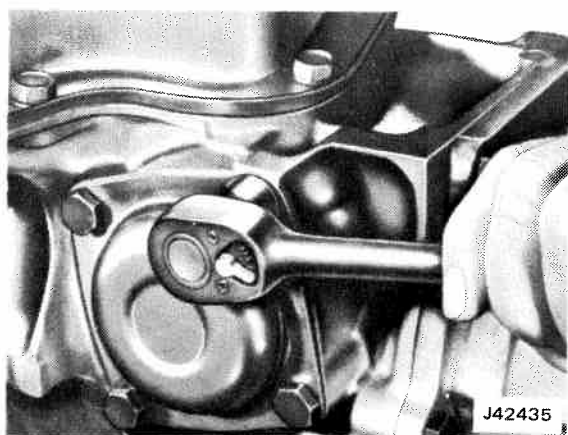

Fig. 7-5 Removing Governor Cover Attaching Screw
- (1) Remove attaching screws, governor cover and gasket from transmission case. Discard gasket (fig. 7-5)